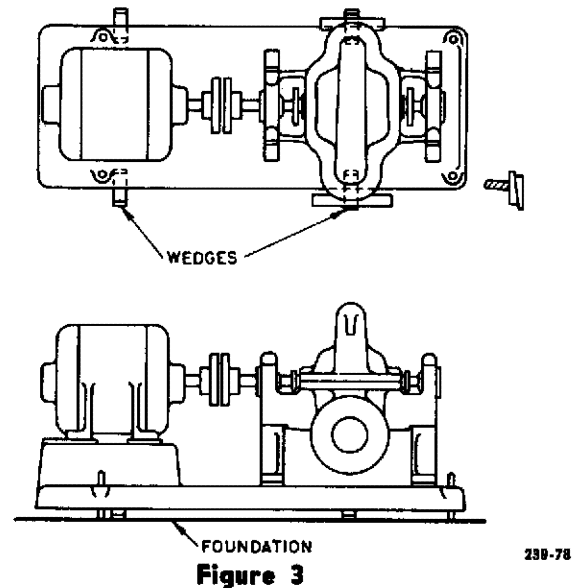

Figure 3
3. Put the unit in place on wedges. THE WEDGES SHOULD BE PLACED AT FOUR POINTS AS SHOWN IN FIG. 3. Some long installations may require additional wedges near the middle of the bedplate.